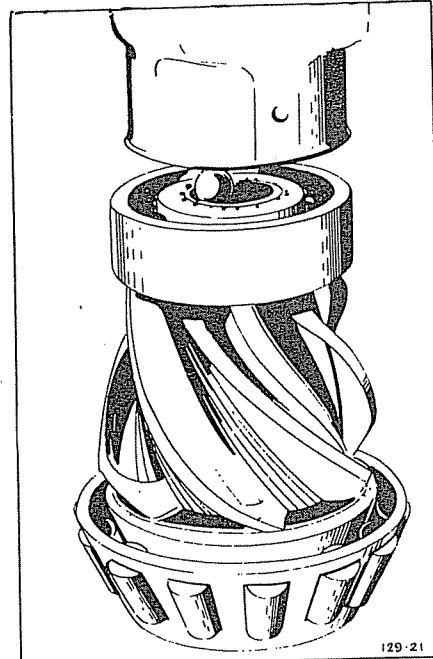

Fig. 49—Staking Pinion Shaft Using a Ball Bearing.
- (1) When assembling the differential unit, lubricate both sides of all thrust washers.
- (2) When assembling the planetary unit, lubricate both sides of thrust washers and cover idler pinion pins with lubricant. **Chamfered teeth on high speed clutch plate must face pinions.** Place notches in oil collection drum between bolt holes in bevel gear. Install bolts and tighten securely and fasten lock wire.
- (3) When assembling the inner bearing stake pinion shaft over in 4 spots after pinion bearing is pressed into place. (Figure 49).